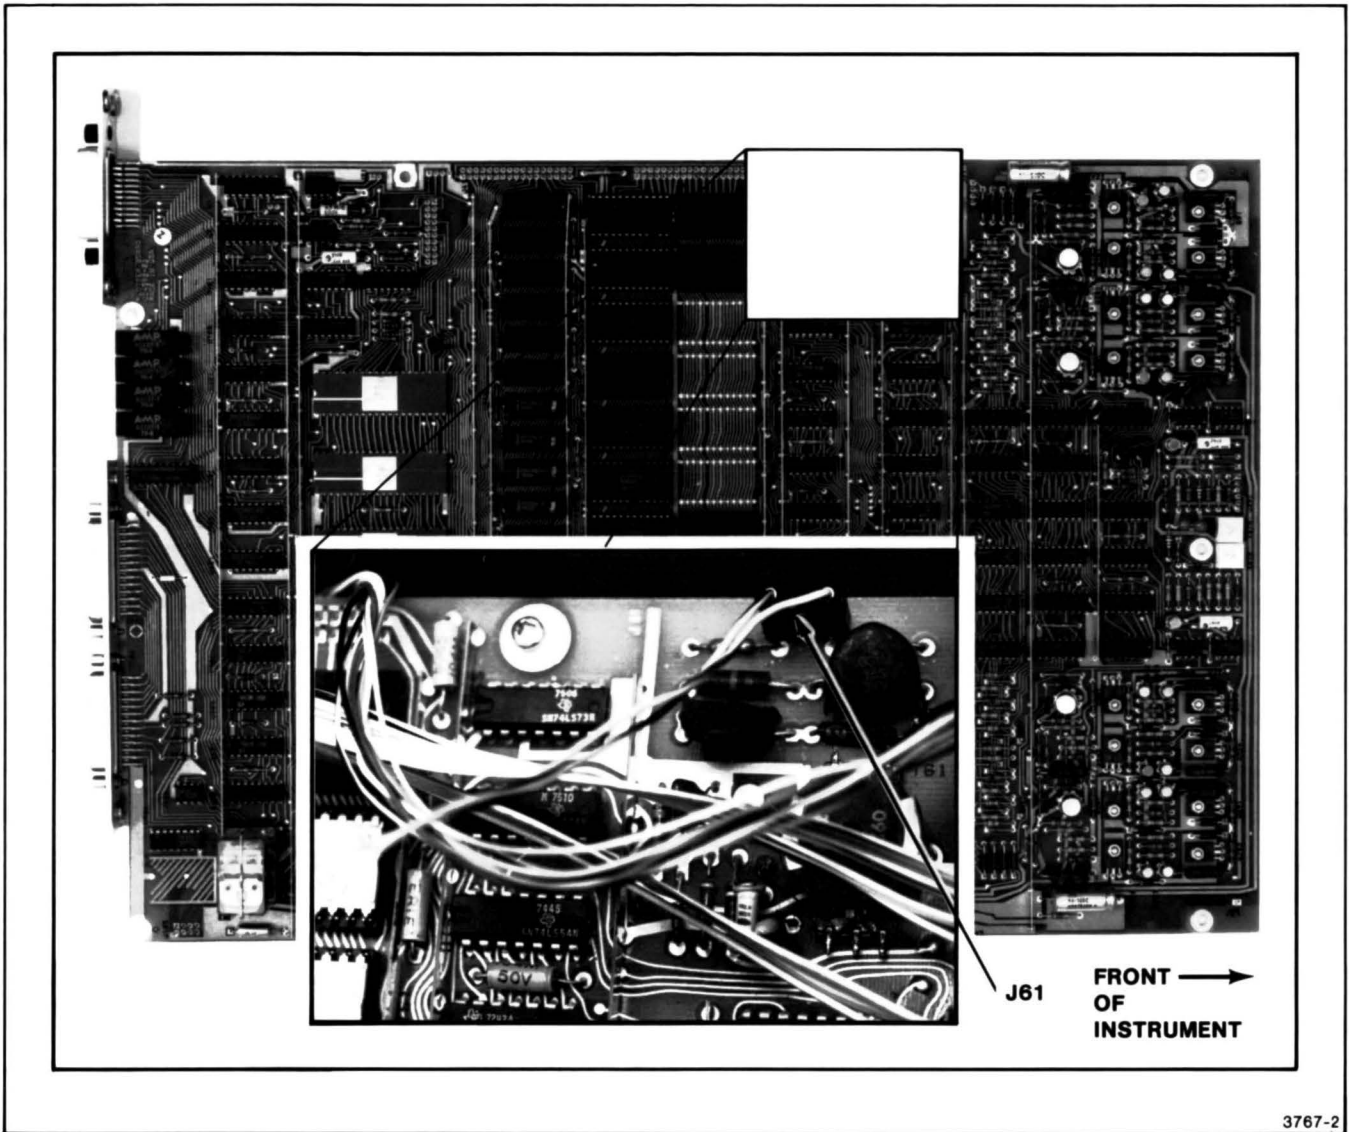

Figure G-3. Platen Connector Position.
- 14. Lift** the platen at the left bottom edge and slide it to the left until it clears the pen carriage. **STOP!** Lift the platen slightly to expose the two-wire cable that connects the platen to the high voltage connector (J61) on the main Plotter circuit board. Disconnect the two-pin harmonica connector from the connector pins, and then remove the platen (see Figure G-3).
**STOP!** Lift the right edge of the platen to enable you to disconnect the two-pin harmonica connector (J61) from the main Plotter circuit board (see Figure G-3). Then, remove the platen.
3. **Reconnect** the platen connector to J61 on the main Plotter circuit board, making certain that the wires will not interfere with the pen drive cables (see Figure G-3).
2. **Move** the Y-axis arm to the left side of the plotter and connect the platen connector to J61 on the main Plotter circuit board (see Figure G-3).